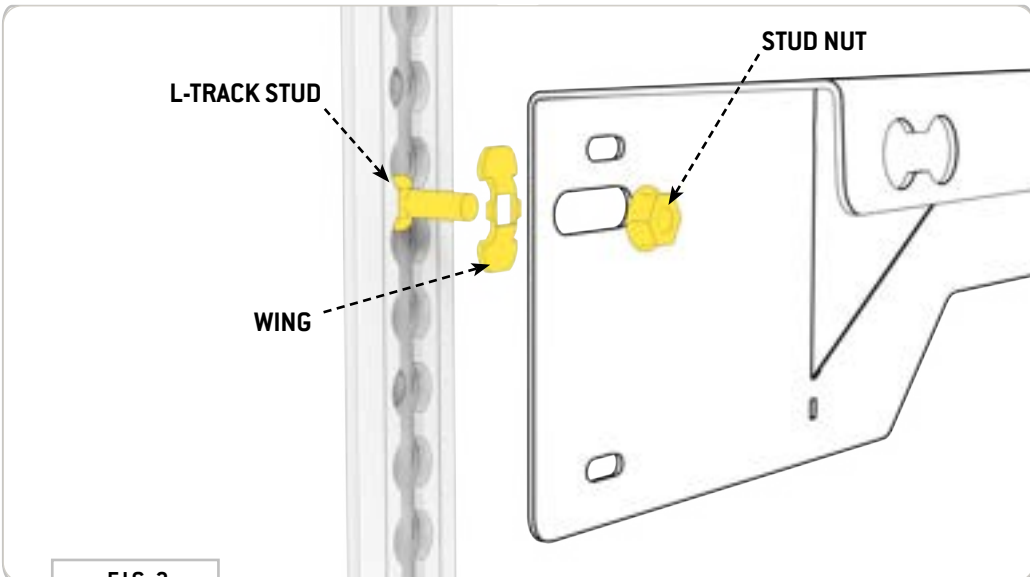

FIG 2
**2.2a** Raise bed rails up to L-Track, align mounting slots to desired location (one per side) and insert L-Track Studs to corresponding L-Track Key Ways (**FIG 2**). Secure L-Track Stud with Wing.